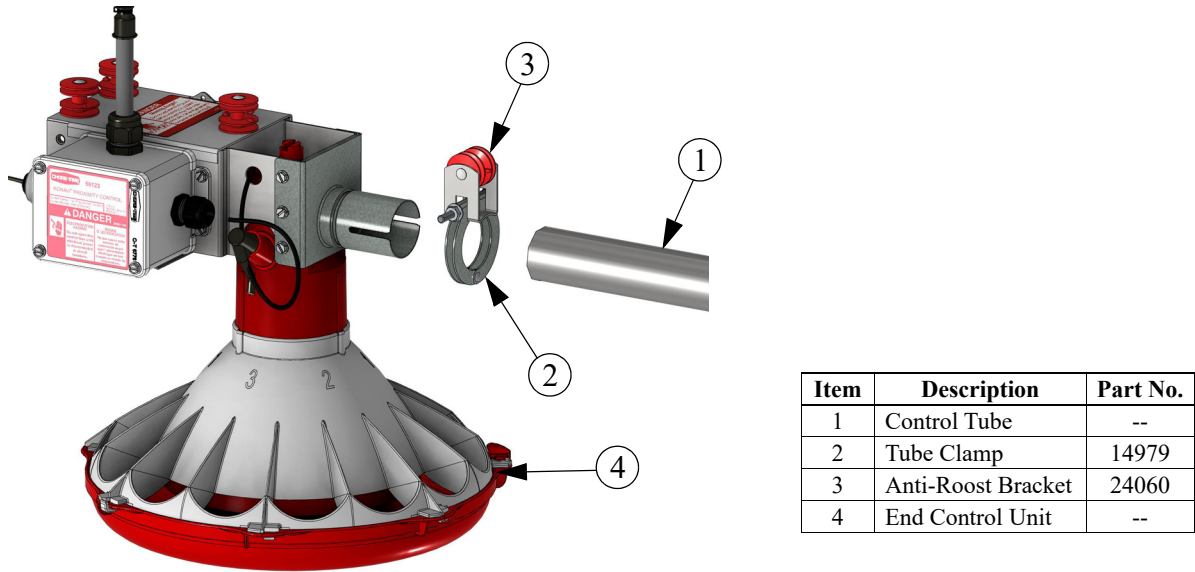

Figure 29.Connecting End Control Unit to the Feed Line Tube
- 1. Assemble the End Control Unit to the Feeder Line Control Tube using a clamp/anti-roost bracket. See **Figure 29. DO NOT INSTALL THE POWER UNIT AT THIS TIME.**